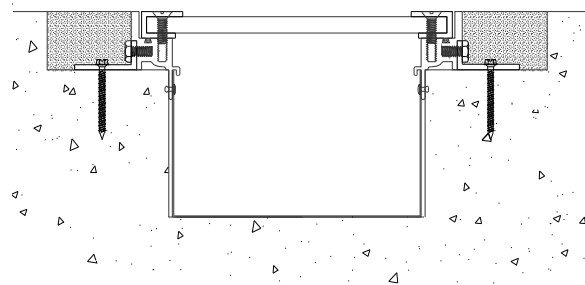

Figure 7
STEP 12. Place the cover plate back into its installed position in the frame. Attach the cover plate to the frame using the cover plate bolts, see Figure 7.